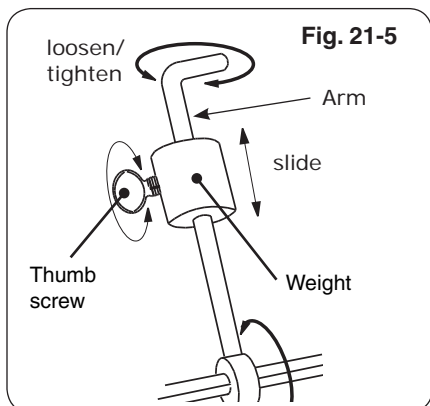
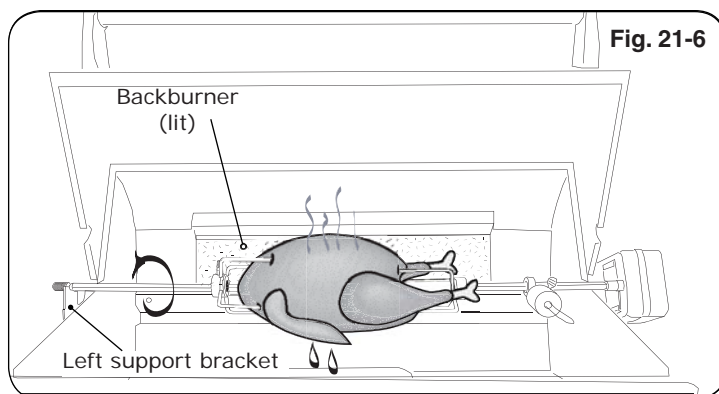

Fig. 21-5
Fig. 21-6
9. Slide the counterbalance weight up or down the arm until the rod rotates most evenly then tighten thumb screw (Fig. 21-5 and Fig. 21-6).